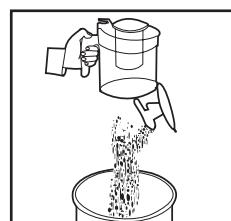

Fig.5
4. Over a waste bin, empty the dust container by pressing the dust container release button **20** on the handle (Fig.5).